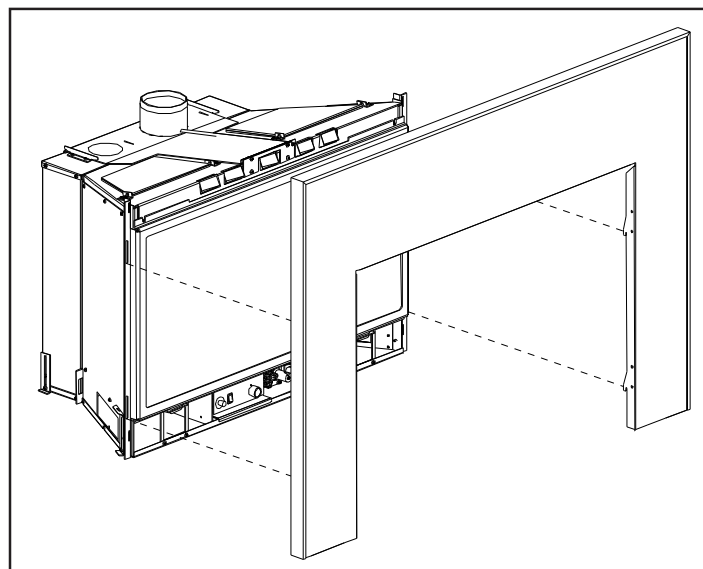

Figure 30: Filler panel with trim installation.
INSTALLATION: Lift the surround upright in front of the fireplace with the four (4) hooks pointing towards the fireplace. Slide the hooks into their corresponding slots (see Figure 30). Ensure the hooks are pushed all the way into the slots and the notch on the hook must be on the bottom of the slot. The surround should be wiped with a damp cloth periodically.